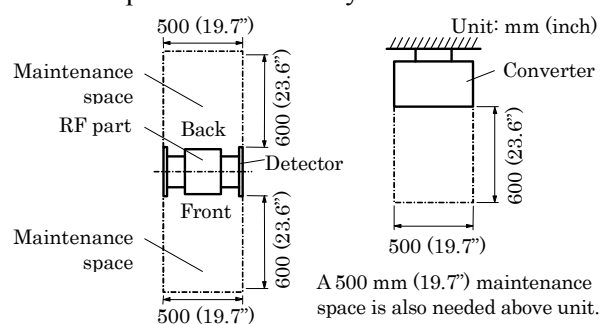

Figure 5. Clearance space
- (1) Choose a place that is free of vibrations and corrosive gasses, and has ample space for maintenance.
- (2) Secure maintenance space around the converter and detector RF section. (Refer to Figure 5)
- (3) In the case of outdoor installation, provide covering against sun and rain.
- (4) It is recommended that the converter be installed about 1.5m (the position of windows) from the floor. The LCD display stays on the front panel of the density meter. Install the converter in a location and orientation easy to see this LCD display.
- (5) Do not install the meter in a place where there is a possibility of leakage of flammable or explosive gas.
- (6) Do not install the meter in any of the following places:
- (7) Install the meter in a place where air bubbles are not generated, inside the pipe is always filled, and sedimentation and accumulation of solid matters do not occur.
- (8) Install the meter in a place where density distribution is uniform. If the distribution inside the pipe is uneven, manual analysis data and the indicated value of the density meter may not show the same value.
- (9) Ensure that the flow rate of the fluid to be measured is 0.6m/s or more.